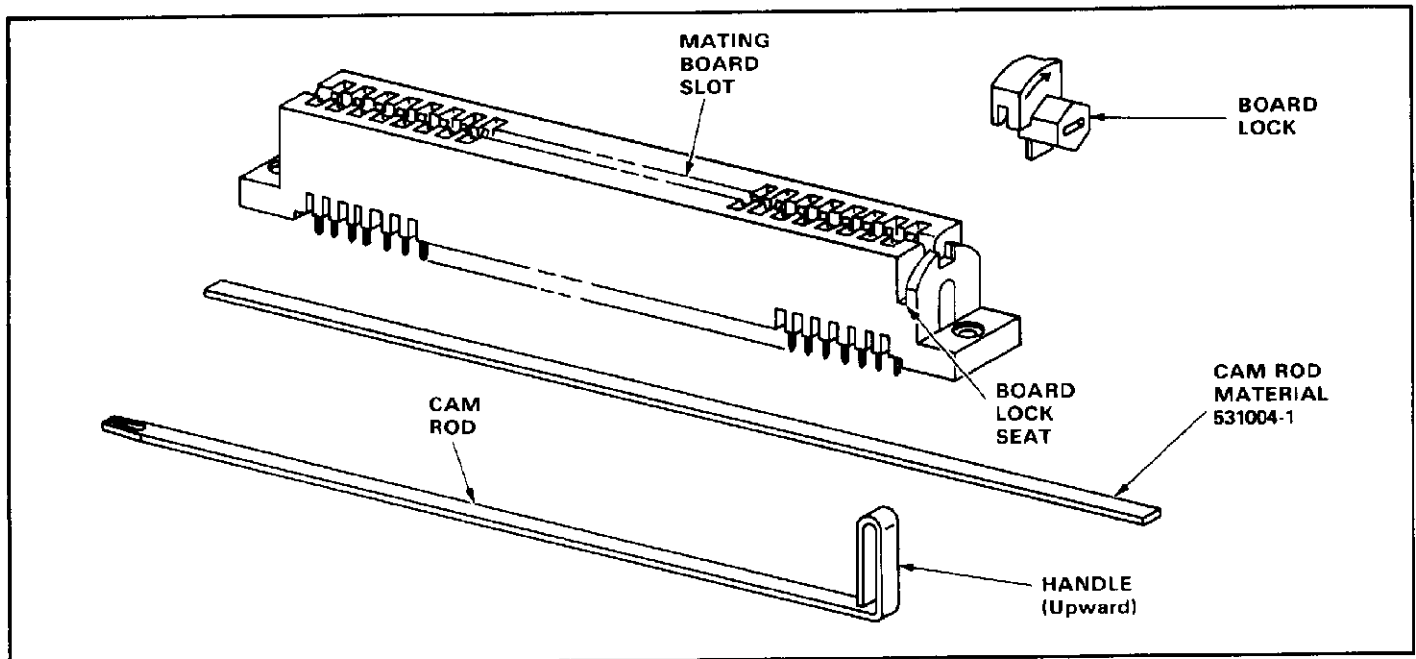

Fig. 13
5. If applicable, remove cam rod and replace board lock. See Figure 13 for proper orientation.